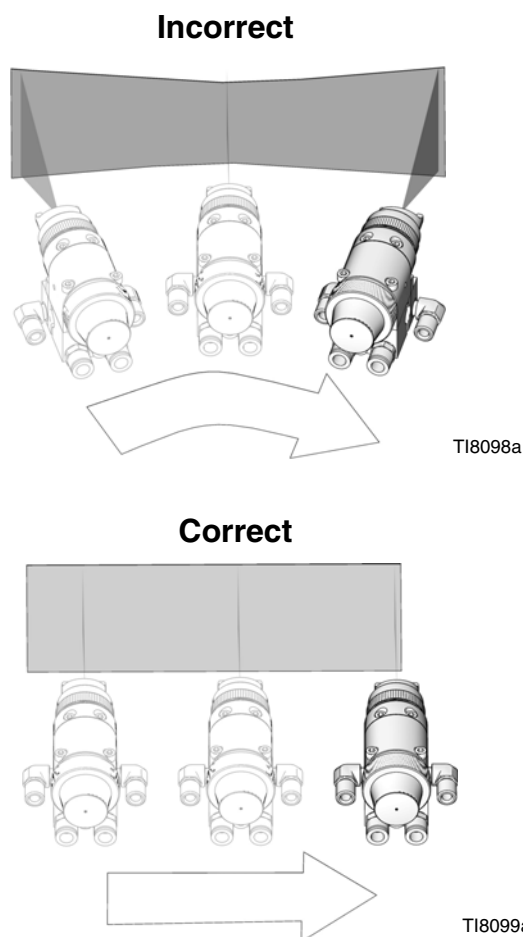

FIG. 10: Correct Spray Method
- Use smooth, parallel strokes across surface to be sprayed with 50% overlap. See FIG. 10.